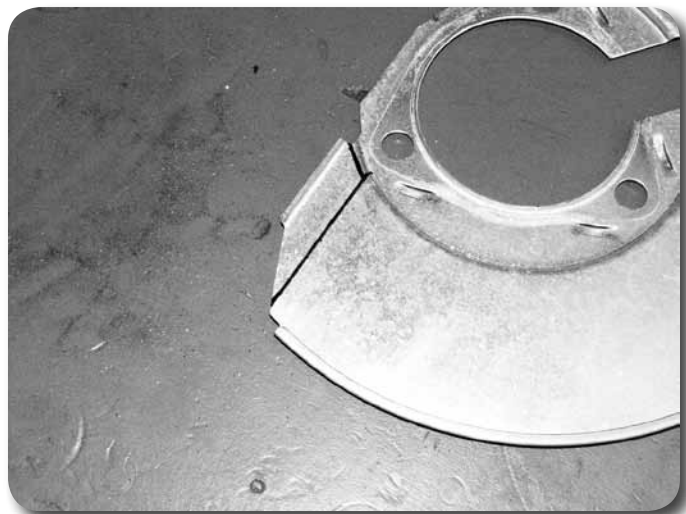

Figure 25
50. The brake dust shield needs to be trimmed. Measure in from the lower vertical edge (opposite the ABS sensor location) $\frac{3}{4}$ " and make a vertical cut line along the entire flat section **Figure 25**. Cut the mark section off of the brake dust shield.